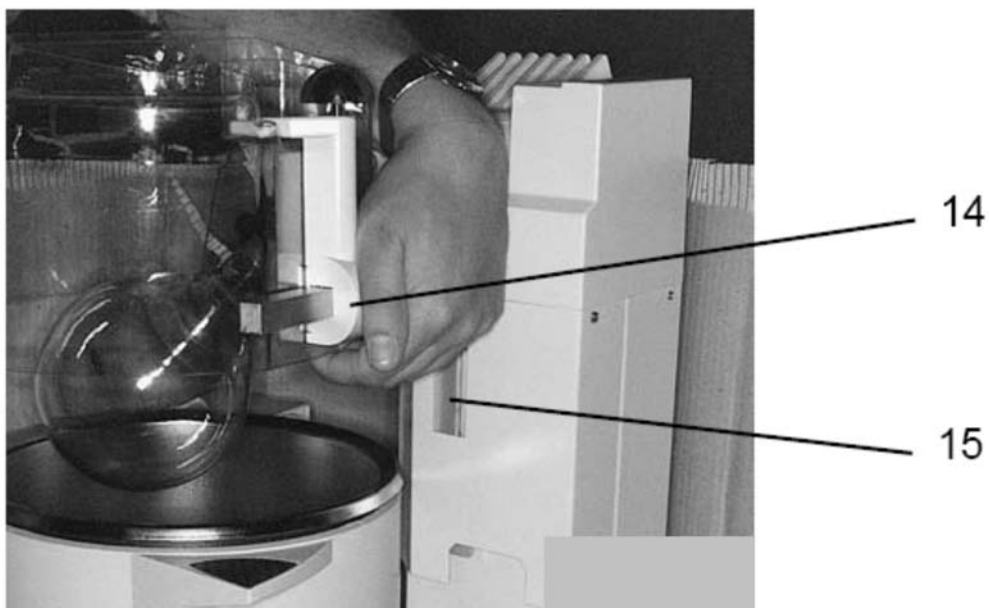

fig. 18
Loosen vertical stop (15) with black rotary knob (22, fig. 15) ("unlock"), hold protective hood's frame (14, fig. 18) and move vertical stop till hitting upper end. Pull rotary knob (22, fig. 15) tight ("lock").